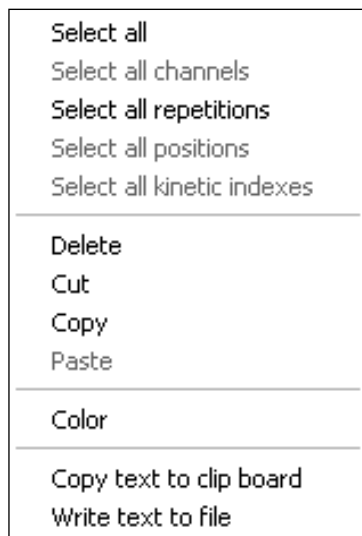

**Fig. 359** Image Container with FCS Diagram containing loaded data and FCS Correlation selected
- Click on the **FCS Correlation** tab to activate the FCS Correlation display mode (Fig. 359).